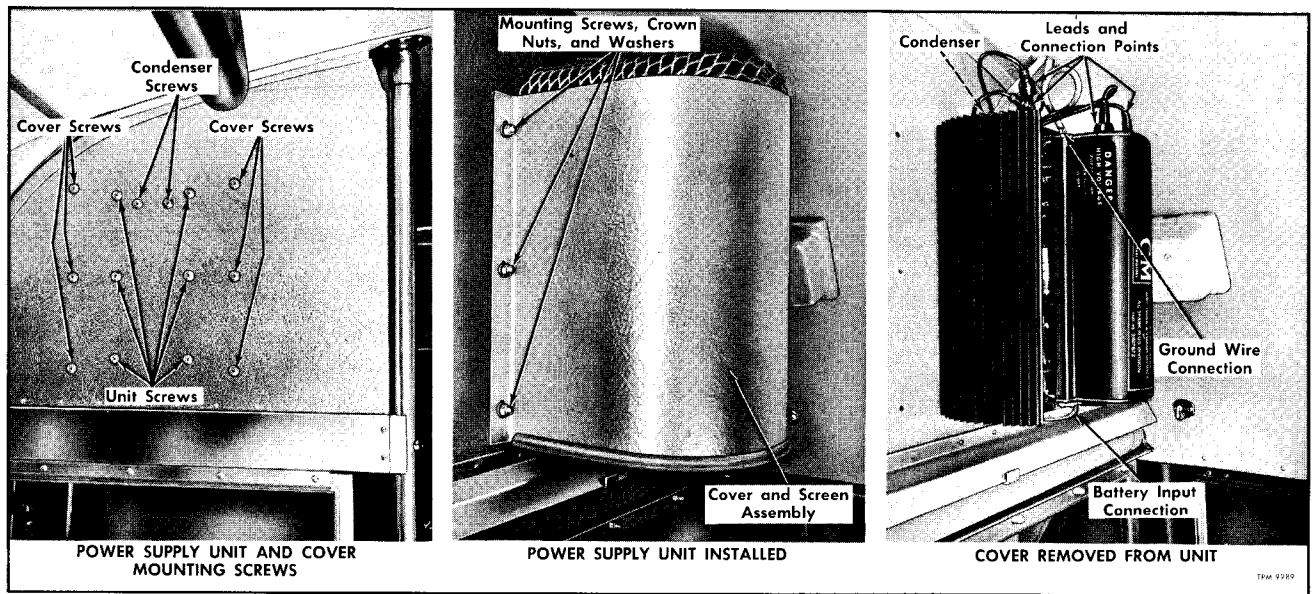

Figure 6—Fluorescent Lighting Supply Unit Installation Views
The power supply unit on standard coaches is mounted on partition above and to the rear of driver's seat (fig. 6) and is enclosed by a cover having screened opening at both top and bottom.
Seven capacitors (sometimes referred to as condensers) are used in this lighting system outside of the power supply unit. One capacitor is installed at each of the six lamps. The seventh capacitor, on these coaches, is located behind the power supply unit as shown in right view of figure 6.
NOTE: Refer to views in figure 6.
2. Disconnect input lead at bottom of power supply unit. Right view of figure 6 identifies wiring connections at unit.